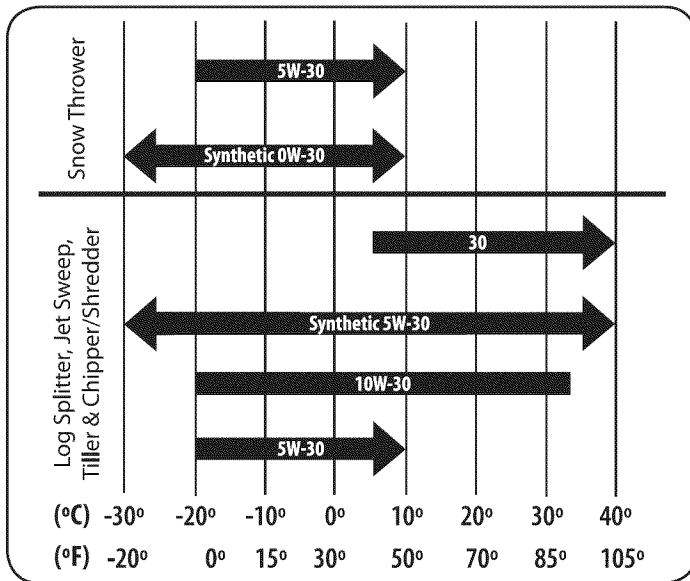

Figure 23
- Refer to the viscosity chart (Figure 23) for oil recommendations. SAE 10W-30 is recommended for general, all temperature use. When adding oil to the engine, refer to viscosity chart in the operation section. Use a 4-stroke, or an equivalent high detergent, premium quality motor oil certified to meet or exceed U.S. automobile manufacturer's requirements for service classification SG, SF. Motor oils classified SG, SF will show this designation on the container.